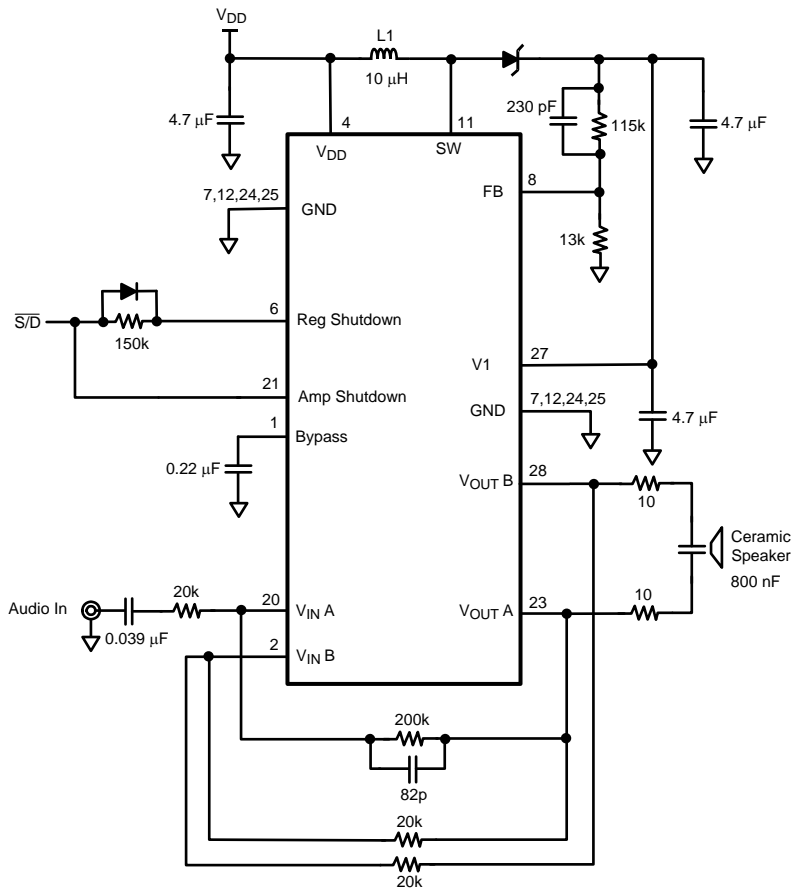

Figure 2. Typical Audio Amplifier Application Circuit
- The maximum power dissipation must be derated at elevated temperatures and is dictated by T_{JMAX} , θ_{JA} , and the ambient temperature, T_A . The maximum allowable power dissipation is $P_{DMAX} = (T_{JMAX} - T_A) / \theta_{JA}$ or the given in Absolute Maximum Ratings, whichever is lower. For the LM4960 typical application (shown in Figure 2) with $V_{DD} = 12V$, $R_L = 4\Omega$ stereo operation the total power dissipation is 3.65W. $\theta_{JA} = 35^\circ\text{C/W}$.